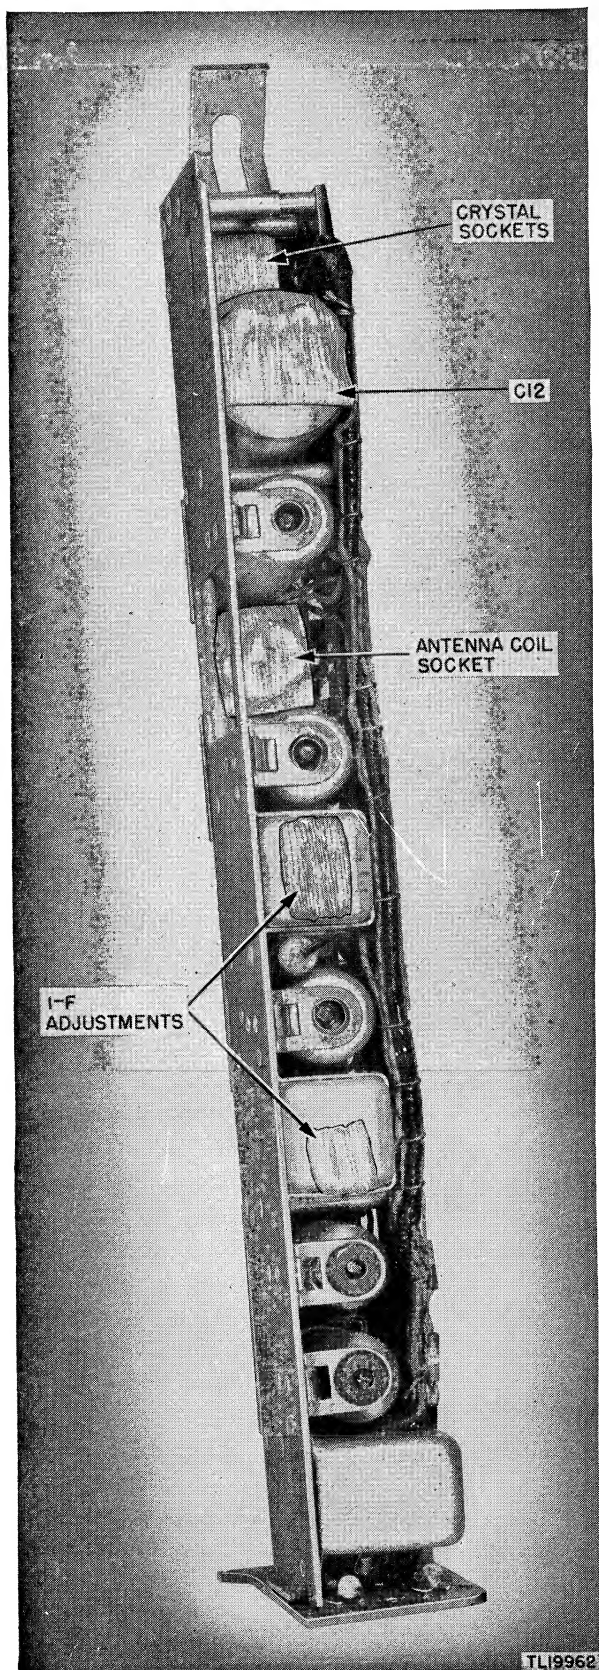

Figure 26. Radio Receiver and Transmitter B-611-(*), top of chassis, showing masking.
- (7) ANTENNA coil socket. (See fig. 26.)
- (8) Top of capacitor C12. (See fig. 26.)
- (9) Crystal sockets. (See fig. 26.)
- (10) Openings in i-f cans (fig. 26) (on Radio Set SCR-536-F model mask top and bottom screw adjustments, figs. 26 and 27).